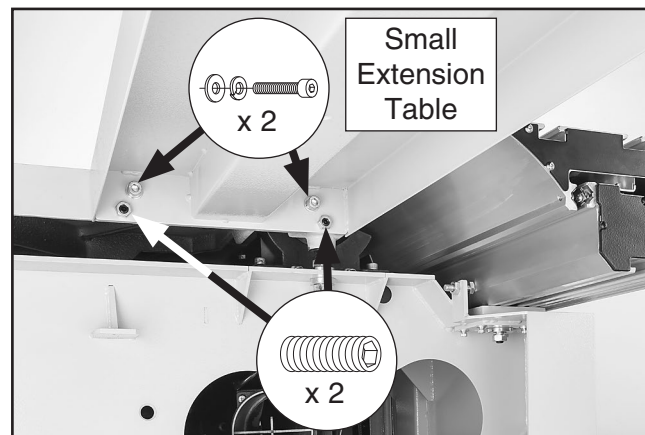

Figure 24. Small extension table attached to cabinet.
11. Attach small extension table to cast-iron table with (2) M10-1.5 x 25 cap screws, (2) 10mm flat washers, and (2) 10mm lock washers (see **Figure 24**). Finger-tighten for now.
12. Thread (2) M10-1.5 x 20 set screws with (2) M10-1.5 hex nuts where shown in **Figure 24**.
— If both tables are *not* parallel with straight-edge, loosen hex nuts on set screws shown in **Figure 24**. Adjust set screws to align top of small extension table with top of cast-iron table, then re-tighten hex nuts to secure setting.